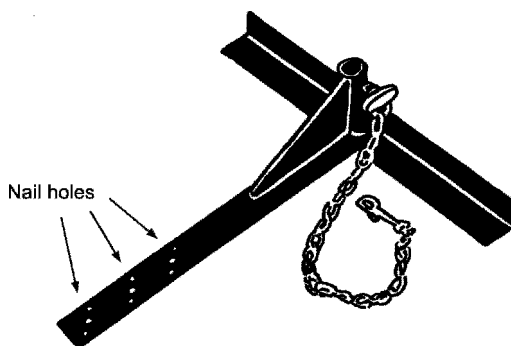

Figure 2.68 T-bone.
1. The T-bone (Figure 2.68) provides rigid support for the low positioning of Junior and Senior lighting instruments.